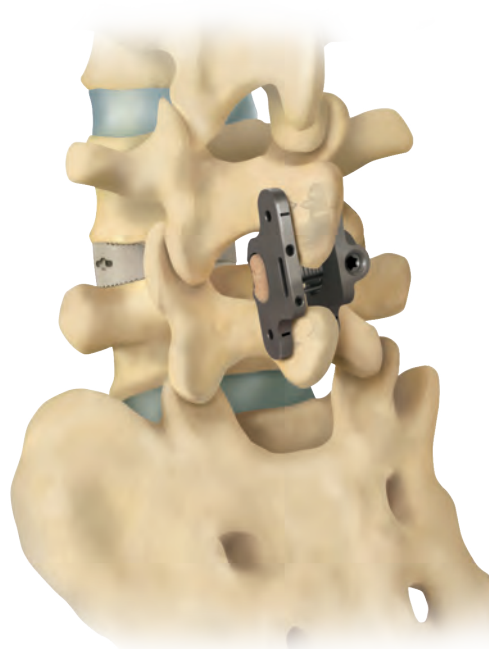

Figure 24
- If not already done, bone graft material may be packed inside the barrel prior to placement of the implant (**Figure 24**).